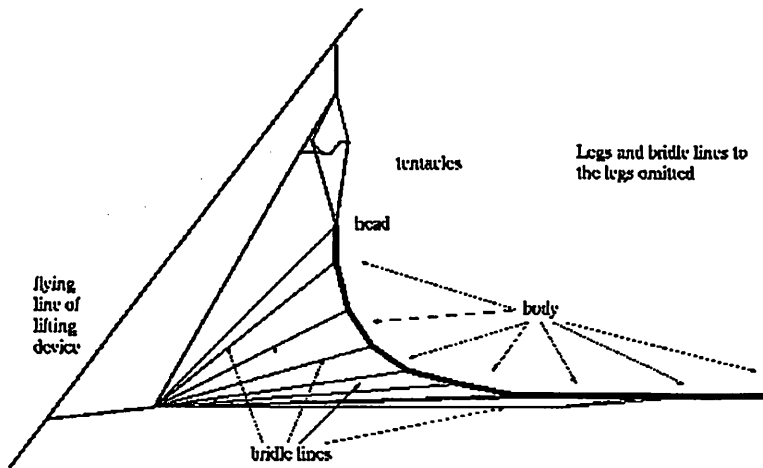

Fig. 13: Overview of the Whole Bridle for the Centipede
Take a 633cm long bridle line which will act as flying line of the centipede. The ends of this flying line will later on be attached to the flying line of a lifting device. Make four overhand loops into this line at 130cm, 351cm, 448cm and 555cm (all distances measured relative to the lower end of the line). Attach the line (A) from the tentacles to point 3 of the flying line. In order to be able to quickly adjust the bridle of the centipede to different angles of the flying line of the lifting device, all the lines to the ten segments (lines H) are attached to the end of line L which is attached to the point 1 of this flying line. For the length of each bridle line H, see fig. 13 and 16. The bridle of the centipede can therefore easily be trimmed by changing the length of line L. Connect the four bridle lines from the head (D) to point 2. Connect the additional line from the head of the top K and to the tentacles I to point 4.